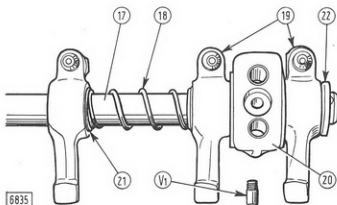

Fig. 19 - Rocker Assembly
To separate end bracket (20, Fig. 19) from rocker shaft (17) withdraw screw (V_1).